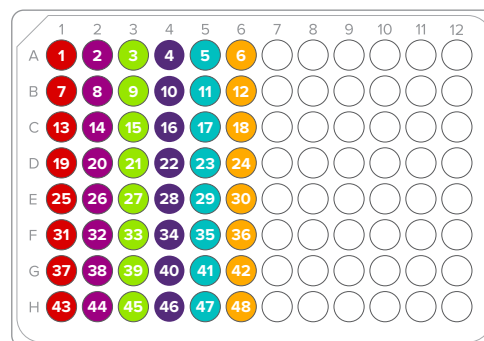

Figure 1. Layout of 20X assay pools and sample mixes
- In a DNA-free hood, combine the following components in wells of a new PCR plate or in 8-well strips according to the layout shown (see Figure 1):
- 2 In a DNA sample hood, pipet into each well of the 96-well plate (follow the layout shown in Figure 1):